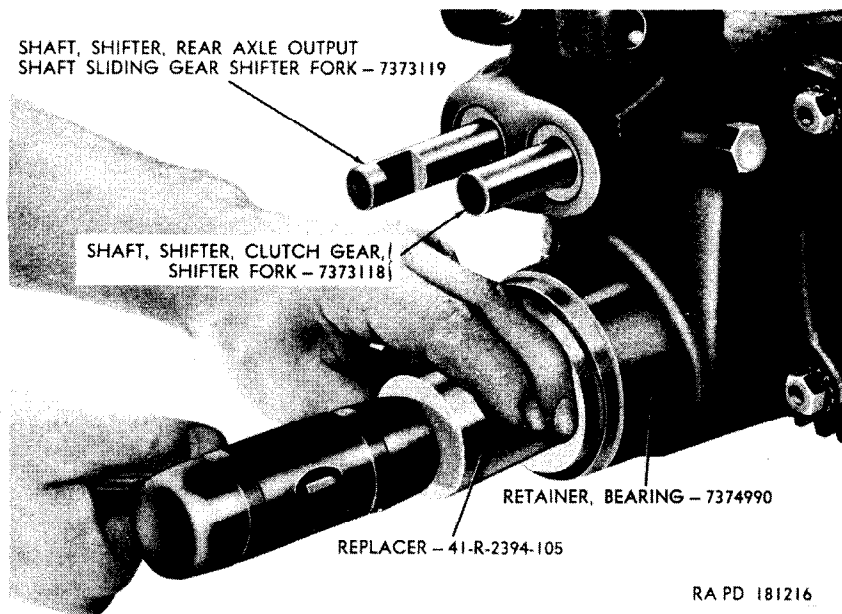

Figure 80. Installing transfer front axle output shaft oil seal.
c. *Install Front Axle Output Shaft Oil Seal.* Position a new front axle output shaft oil seal gasket (Y) in front axle output shaft bearing retainer (DD). Using replacer 41-R-2394-105, install the front axle output shaft oil seal against the seal gasket as shown in figure 80.